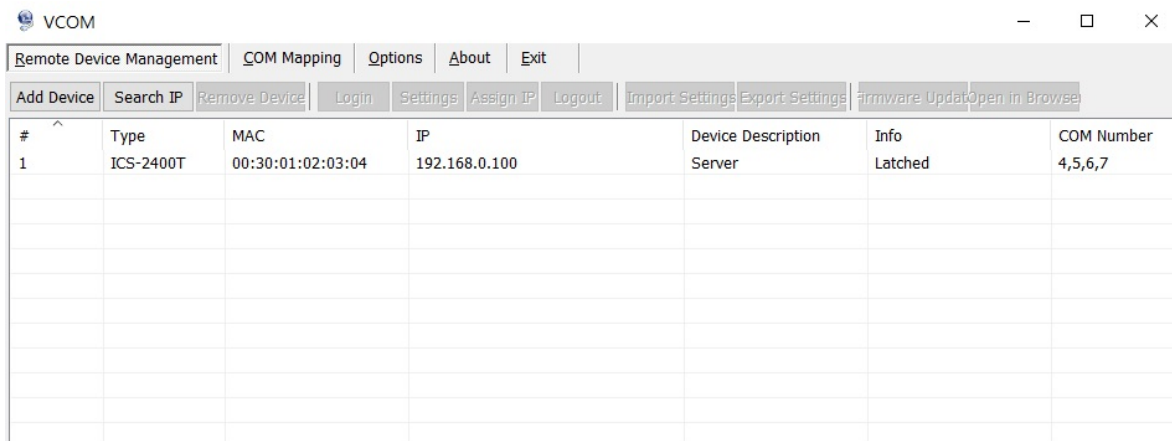

Figure 5-2-2: A device successfully added
2. After adding an ICS-2400T device as shown in Figure 5-2-2.